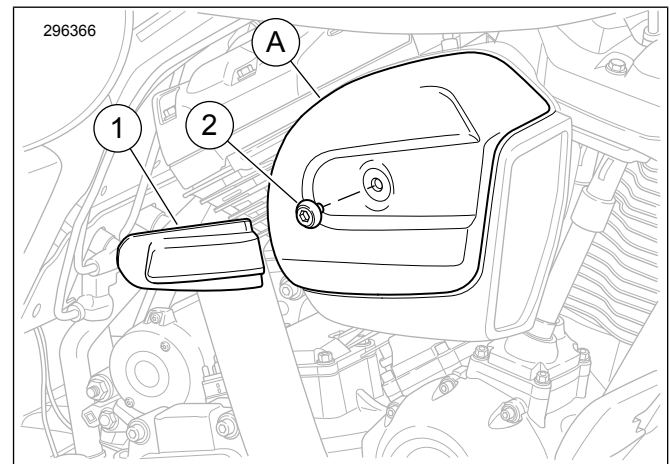

Figure 1. Screamin' Eagle Air Cleaner Medallion
See Figure 1 and Table 1.
1. See Figure 1 and Table 1. Remove air cleaner cover (A).